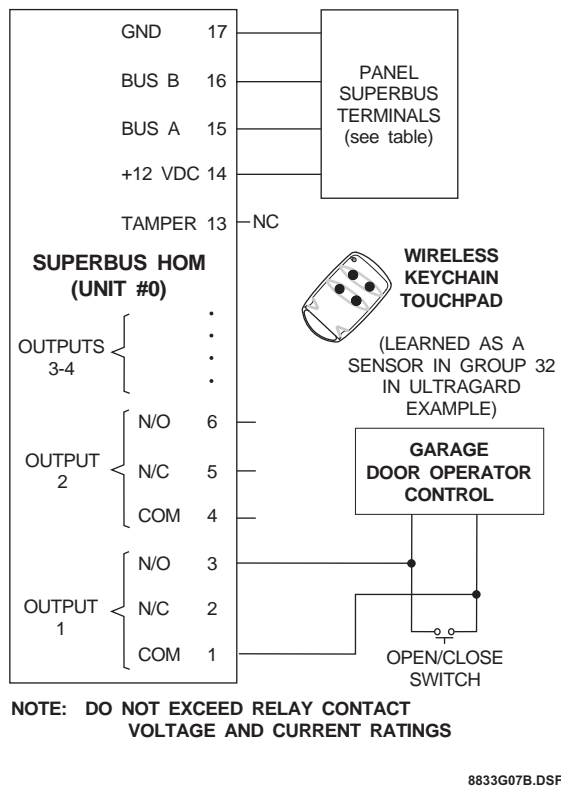

Figure 14. Connecting an Overhead Door Operator to the HOM
3. Wire the HOM Output 1 COM and N/O outputs in parallel with the overhead door operator control as shown in Figure 14.